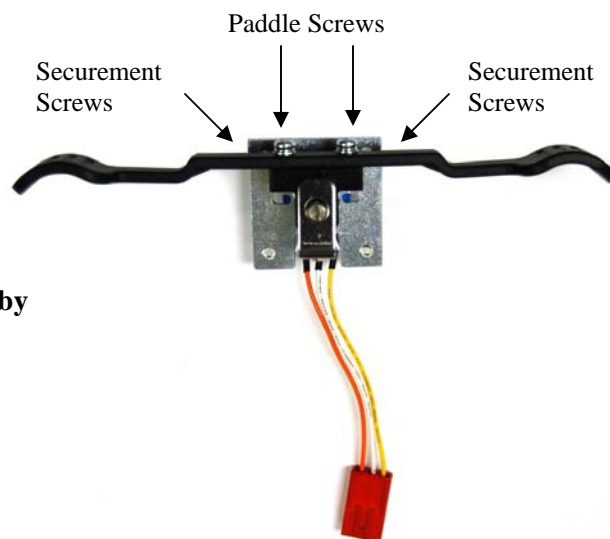

Figure 31. Throttle Pot
4. Separate the control panel halves by removing the (4) Phillips screws.
NOTICE At this point the plastic paddle can be replaced by removing (2) screws. See figure 31.
6. Remove the (2) screws that fasten the throttle pot assembly.